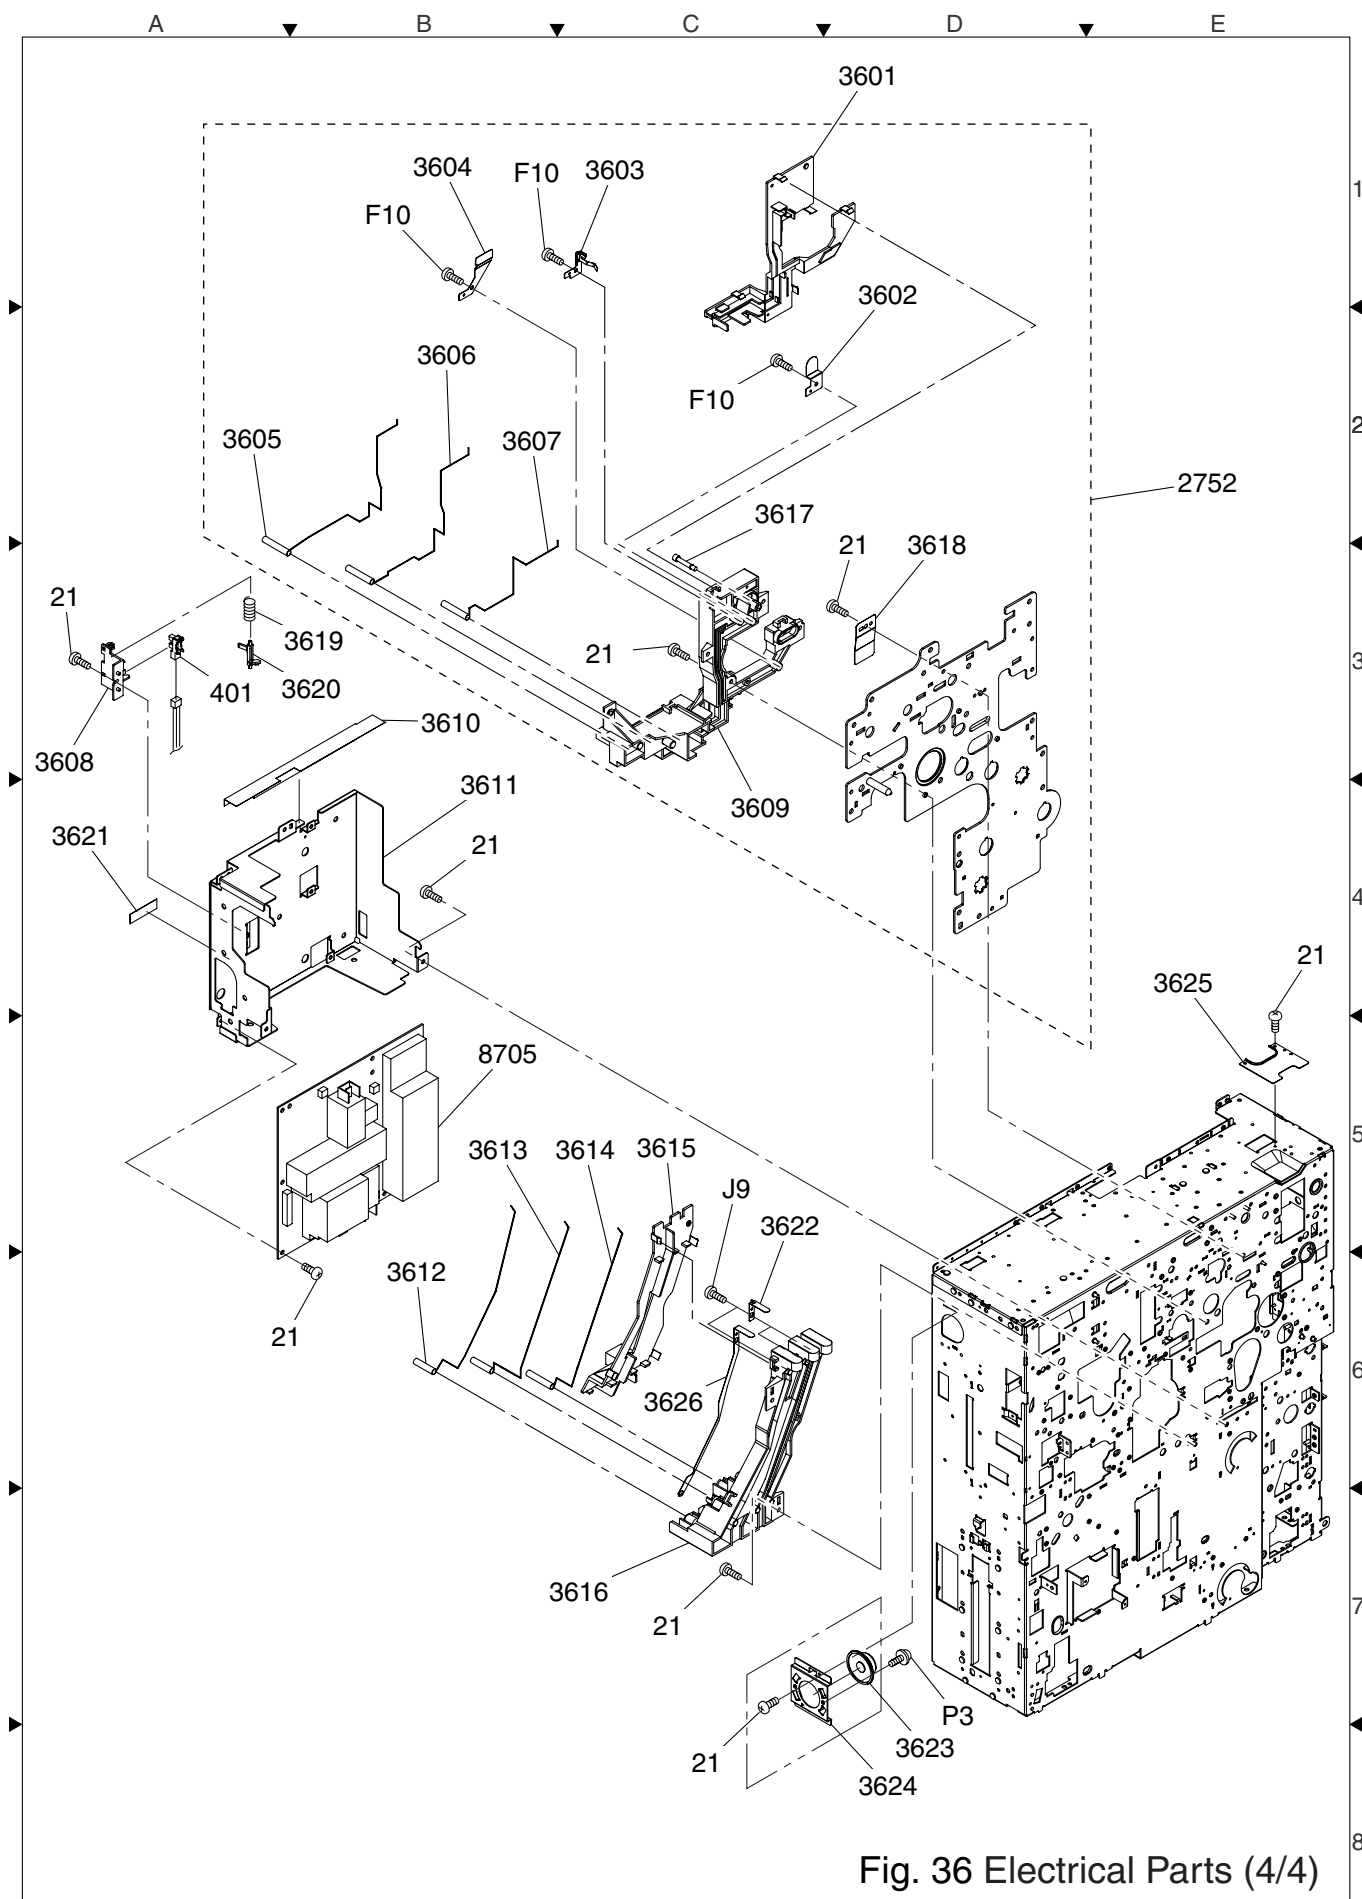

Fig. 36 Electrical Parts (4/4)
* This Kit includes the parts shown in Fig. 27, Fig. 28 and Fig. 36.